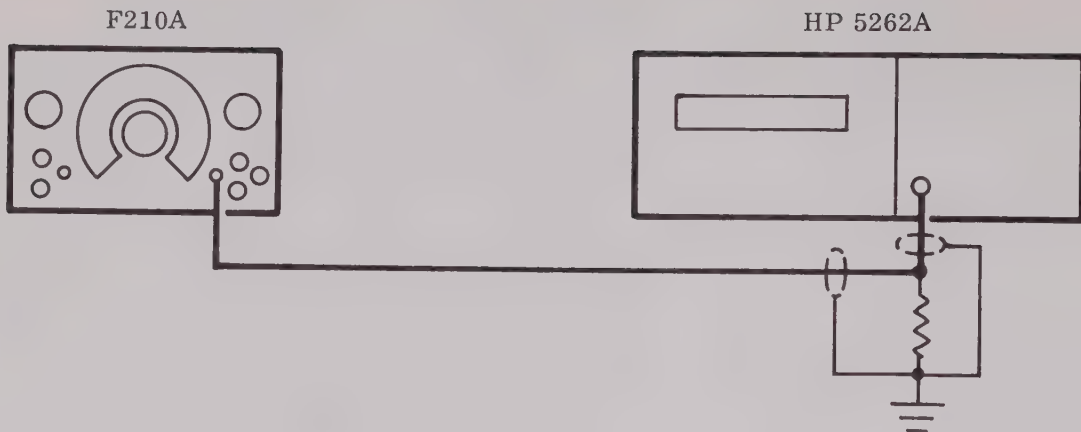

FIGURE 3-11
15. Interconnect the equipment as shown in Figure 3-11, observing signal and ground connections carefully.